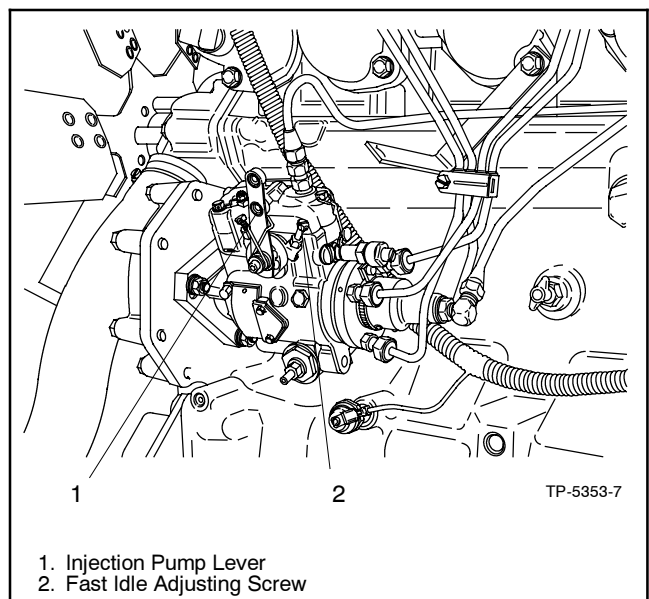

Figure 10-8 Governor Adjustments, Typical
3. Verify that injector pump lever is held in fast idle position against fast idle adjusting screw. See Figure 10-8.